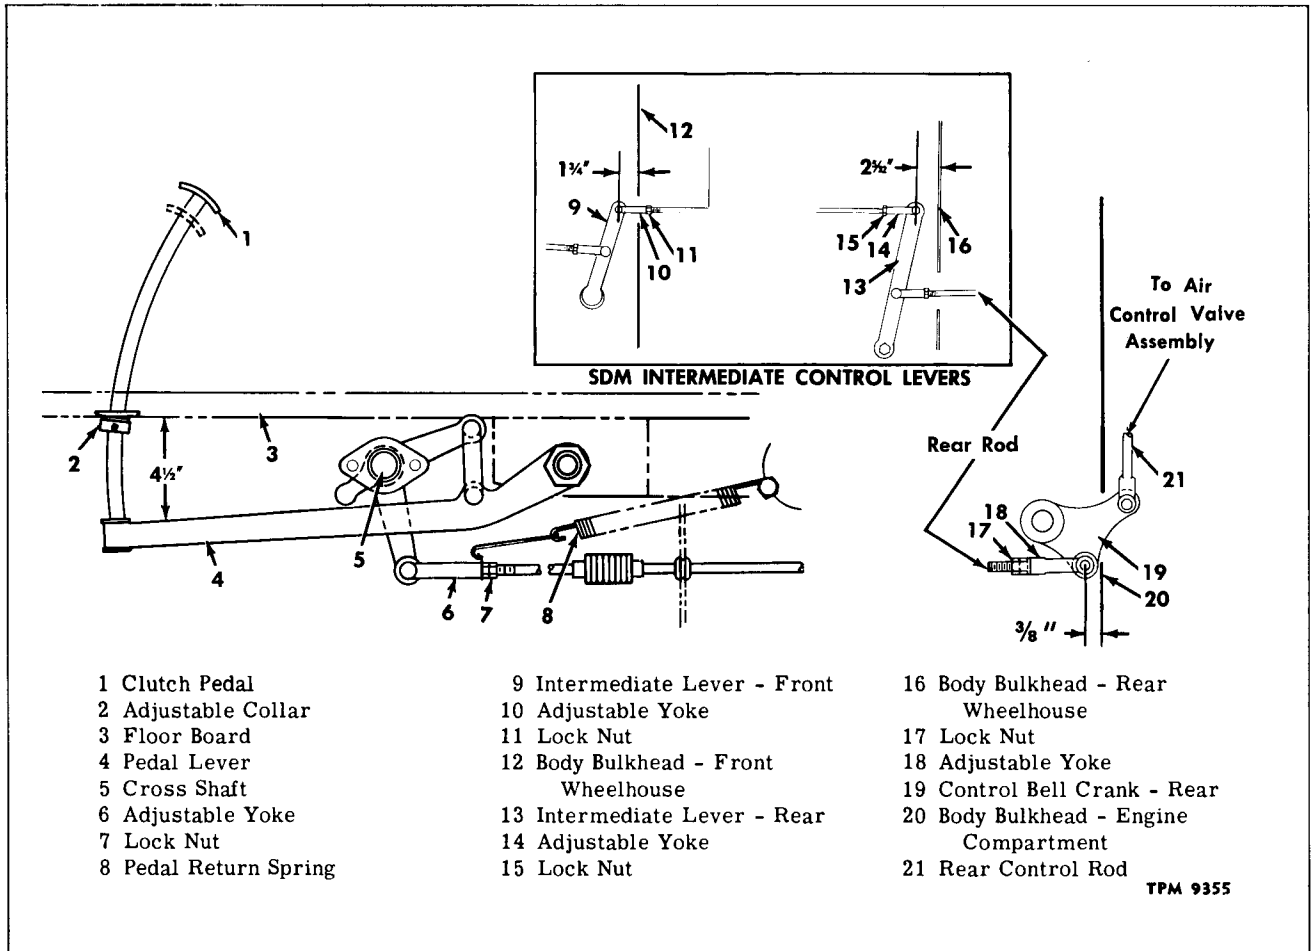

Figure 3—Clutch Pedal and Control Linkage
Figures 3, and 6 show the clutch release linkage. Clutch release is affected by pedal, the movement of which is transmitted to release mechanism through rods and levers shown in figure 3.
Spring (15) holds lever (20) in contact with wedge-shaped end on adjusting nut (8) and causes release bearing to be held out of contact with clutch release levers. Spring supports air line (11) so it does not rub against other mechanism. Pedal return spring (8, fig. 3) holds pedal and linkage in engaged position when driver's foot is not on pedal.
CLUTCH PEDAL AND LINKAGE (Fig. 3)
from bulkhead shown in figure 3. This will give best leverage for disengaging clutch with light pedal pressure.
CAUTION: Always make adjustments as later described at linkage in engine compartment after replacing any items shown in figure 3.
Key numbers in text refer to figure 3.
1. Check distance from pedal lever (4) to underside of floor. Distance should be 4-1/2 inches at point indicated in figure 3.
2. If necessary to change position of pedal lever in relation to floor, first check return spring (8) which must be in good condition and check to see that adjustable collar (2) is held firmly against floor. Loosen set screw in collar (2) and move collar as required to provide the 4-1/2-inch dimension from pedal lever to floor. Tighten set screw.
When clutch control rods or other linkage on SDM coaches is replaced or if difficulty is experienced in clutch linkage operation. Perform check and make adjustment, if necessary, at the intermediate control levers as directed below. Inset in figure 3 shows lever arrangement.
4. If the procedure described in step 3. above indicates need for adjustment, turn clevis (14, fig. 3) to set lever in proper position.
For proper leverage and satisfactory clutch linkage operation, the distance from clevis pin in bell crank (19, fig. 3) to bulkhead is 3/8" as shown.
1. With clutch pedal up (collar contacting floor) measure distance from center of clevis pin at bell crank (19, fig. 3) to bulkhead.
2. If necessary loosen lock nut, remove clevis pin, and turn adjustable yoke (18) to provide the 3/8 inch dimension shown in figure 3.